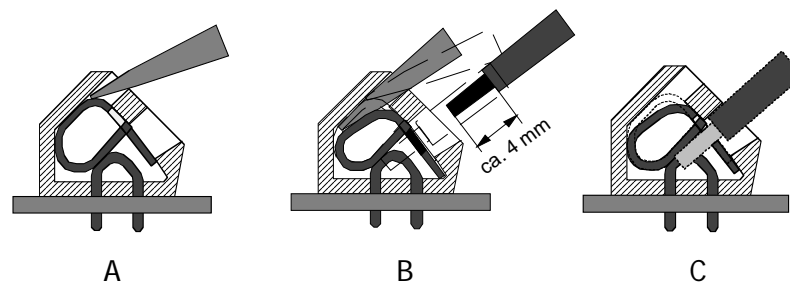

Fig. 4.5 Connection in screwless spring-loaded terminals
- Insert a size 1 screwdriver in the upper opening and insert it turning slightly upwards (Fig. 4.5 A).
- Now place the stripped connecting wire in the lower opening and hold it there securely (Fig. 4.5 B).
- Withdraw the screwdriver. The connecting wire is then firmly fixed (Fig. 4.5 C).
The insulation of the connecting wire must extend as far as the terminal indentation, i.e. there must be no further bare part of the connecting wire visible above the terminal edge (as shown in Fig. 4.5 C). Touching live parts is dangerous to life. The stripped part of the connecting wire should be shortened if necessary.